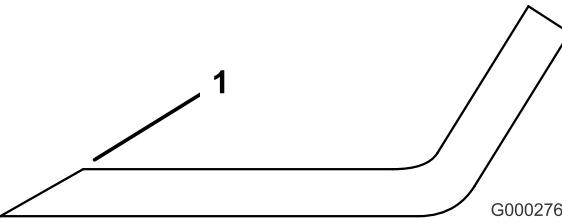

Figure 90
3. Examine the cutting edges of all the blades and sharpen the cutting edges if they are dull or nicked (Figure 90).
Note: Sharpen only the top of the cutting edge and maintain the original cutting angle to ensure sharpness (Figure 90). The blade will remain balanced if the same amount of metal is removed from both cutting edges.